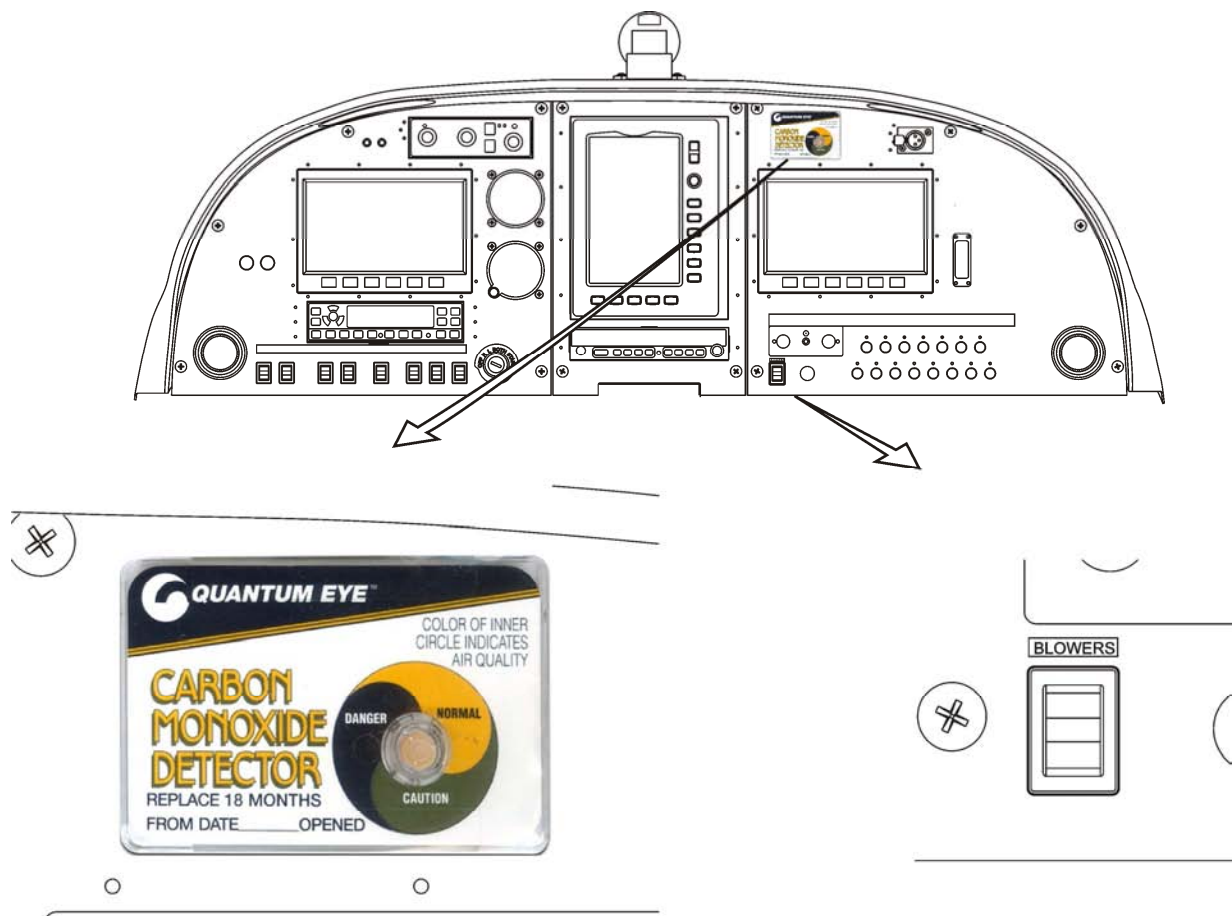

Fig. 13-3: Quantum Eye CO detector / blowers switch typically location
Furthermore is installed defogging of the windshield by means of two electric blowers that supply the air from the cockpit compartment via two air channels (6) on the windshield. The blowers are not connected to the supply air from the heat exchanger and switch on by means of the **BLOWERS** circuit breaker located on the right part of the instrument panel (see Fig. 13-3).